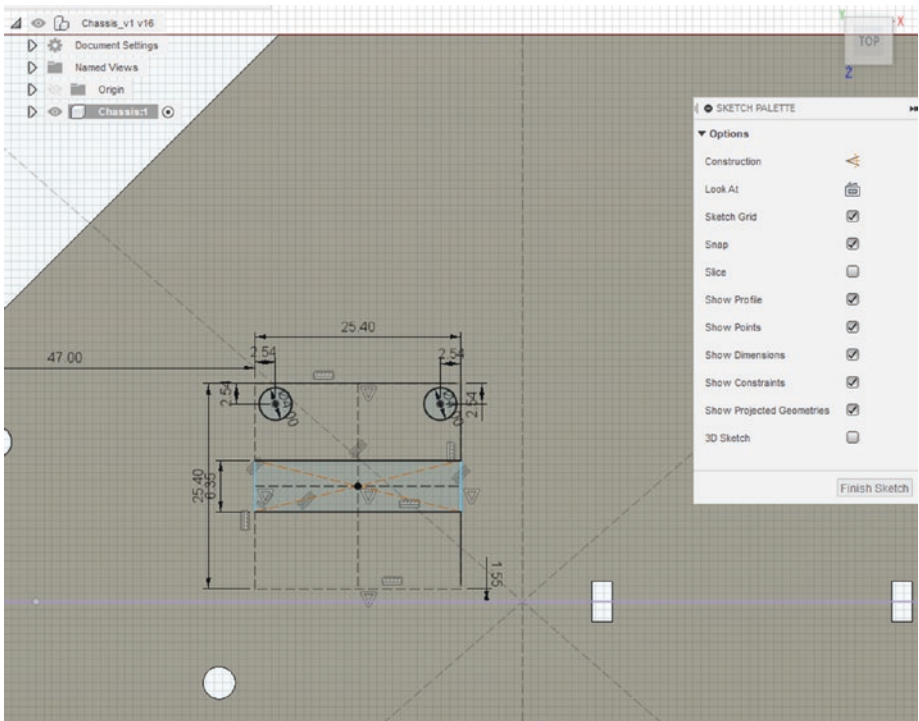

Figure 6-58. Add the holes and support for the motor driver
14. Now let's make the holes and the stand for the H-bridge we created in the previous section. It is easy to get these measurements as we created the board. Use Eagle to get these distances if you want some practice. See Figure 6-58. The platform is used to make sure the PCB is stable.